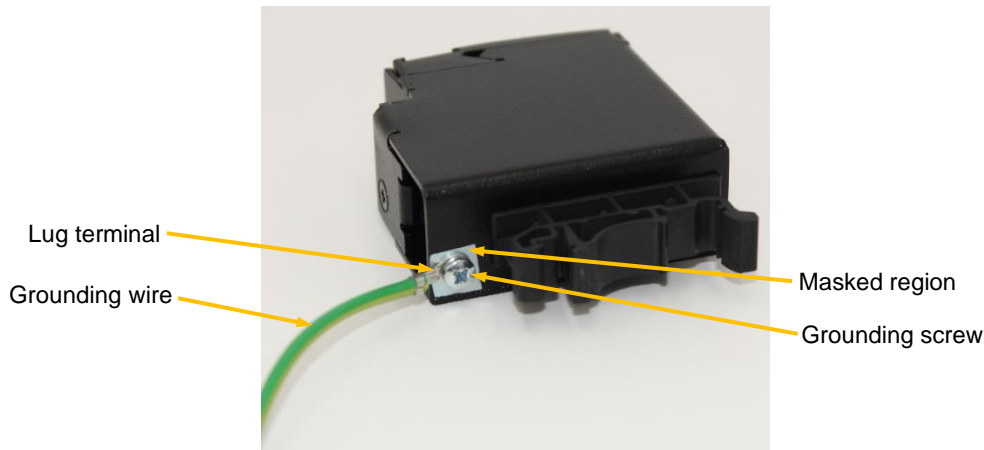

Fig.3L
3.3 Equipment grounding (Only for shielded Jack assembly versions). (Fig.3L)
- Secure the lug terminal of the grounding wire at the bare face (masked region) at rear of the base using grounding screw. (Fig 3L)